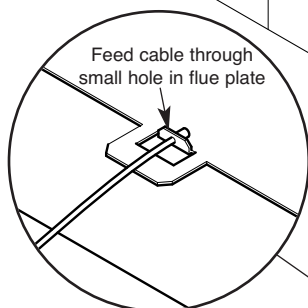

Fig. 35
4. Feed the cable through the hole in the top flange of the fire box from the rear (Fig. 35).